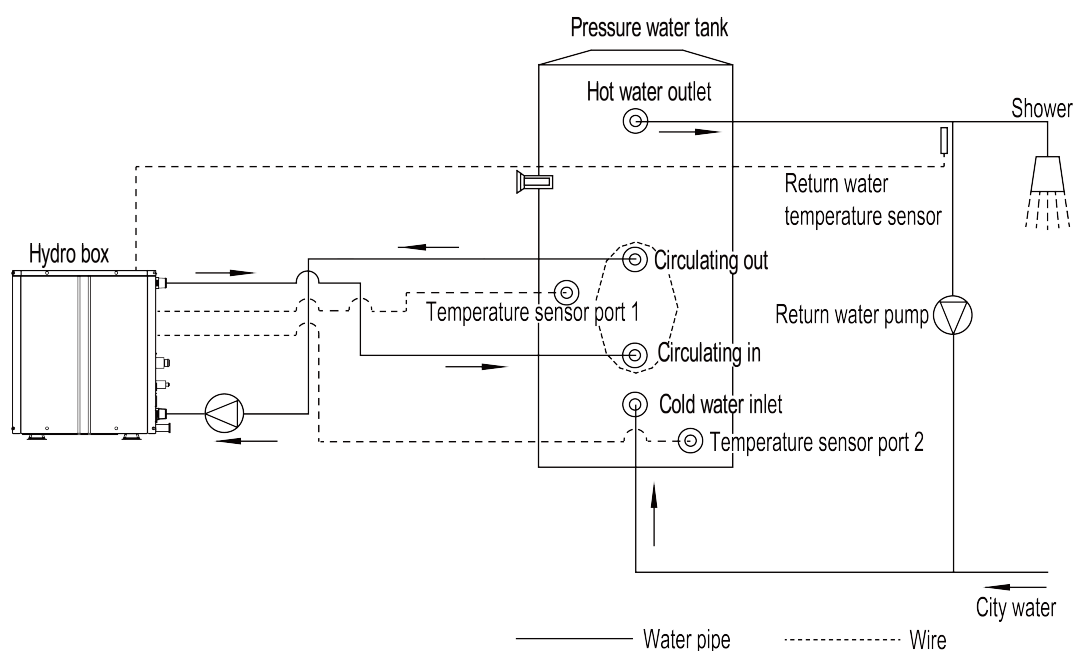

Fig.4.14
- ① The return water channel can be installed by referring to the following schematic Fig.4.14.
- ② One return water temperature sensor is provided in the packaged accessories. Connect the terminal of the temperature sensor to the main board AP1-CN49 of the control box during installation.
- ③ The control box of the hydro box only provides the control signal of the return water pump. Please make sure that the return water pump is powered by an external power source and connected to XT1-5 and XT1-6 of the control box wiring board through the relay.